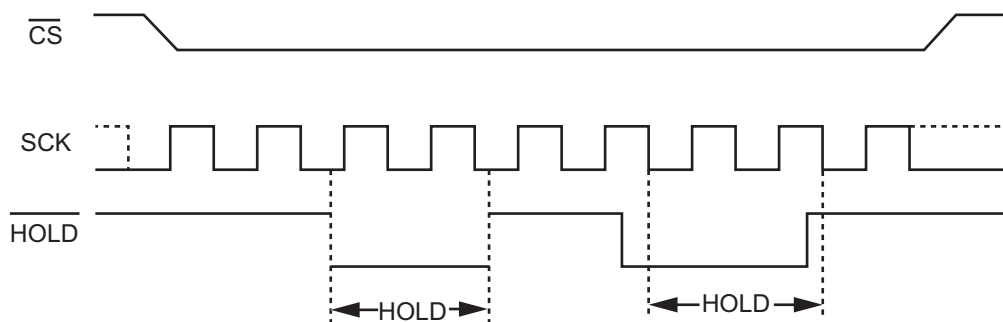

Figure 3. Hold Condition Activation
When  $QE=0$ ,  $HOLD=0$ , the  $\overline{HOLD}$  signal is used to pause any serial communications with the device without resetting the clocking sequence, but does not stop the in-progress operation of write status register, programming, or erasing. During the Hold condition, the Serial Data Output (SO) is high impedance, and Serial Data Input (SI) and SCK are don't care. To enter the Hold condition, the device must be selected, with  $\overline{CS}$  low. Normally, the device is kept selected for the whole duration of the Hold condition. Deselecting the device while it is in the Hold condition, has the effect of resetting the state of the device, and this mechanism can be used if it is required to reset any processes that had been in progress. The Hold condition starts when the  $\overline{HOLD}$  signal is driven low at the same time as SCK already being low (Figure 3). The Hold condition ends when the  $\overline{HOLD}$  signal is driven high at the same time as Serial Clock (SCK) is low. Figure 3 also shows what happens if the rising and falling edges are not timed to coincide with SCK being low.